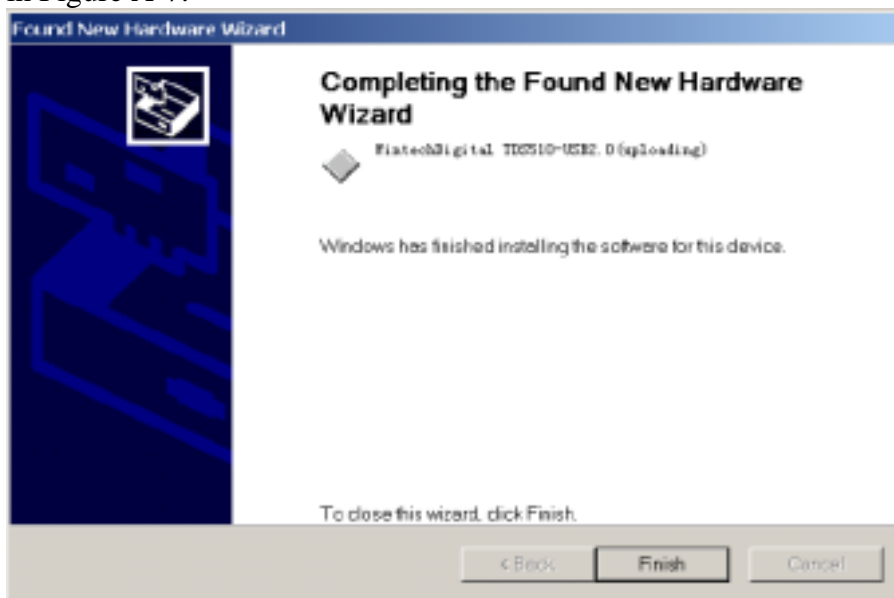

Figure A-7
8. Click on Next, the following window will be displayed, as shown in Figure A-7.